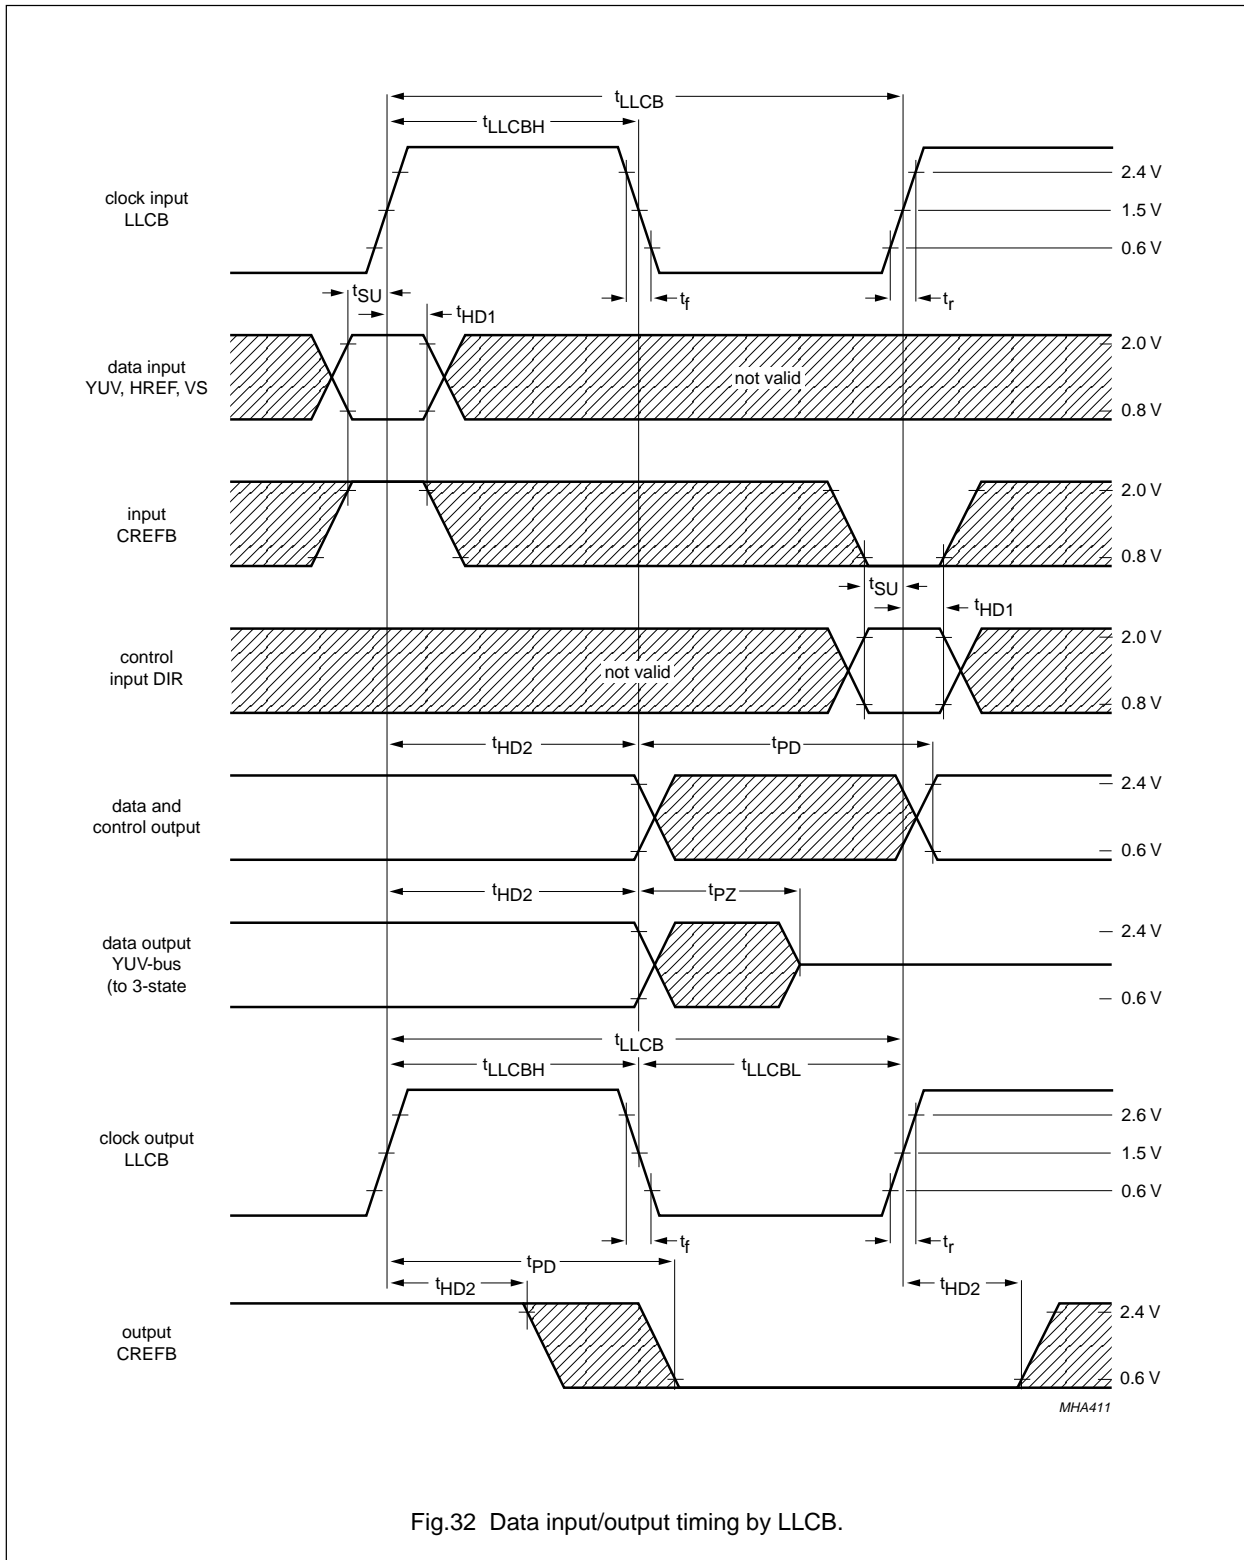

Fig.32 Data input/output timing by LLCB.
Clock input timing (LLCB); see Fig.32
Data, control and CREFB input timing; see Figs 32 and 33 and note 2
Data and control output timing; see Fig.32 and note 3
Clock output timing (LLC, LLC2 and LLCB); see Fig.32
Data qualifier output timing (CREFB); see Fig.32
- CREFB-timing also valid for VCLK in transparent mode (see Fig.32).